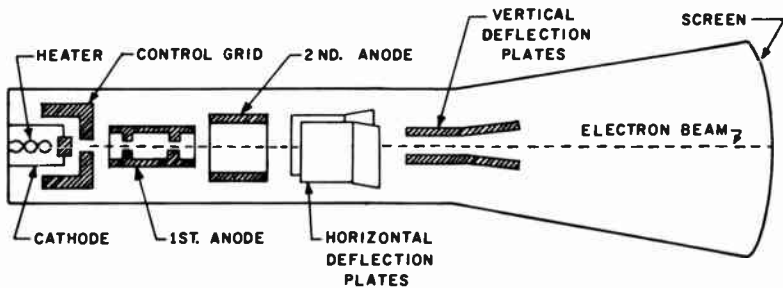

FIG. 8-16. A CATHODE RAY TUBE.
**3 THE CATHODE-RAY TUBE.** A CATHODE-RAY TUBE, abbreviated CRT, is a vacuum tube designed to give a graphical display of electrical signals. The CRT (Fig. 8-16) is the heart of the oscilloscope, radar screen and early television set.
**3 OPERATION OF A CRT.** See Fig. 8-16. Electrons are emitted by the cathode and are attracted to the positive anodes. The anodes have large positive voltages on them and cause the electrons to travel at very high velocities. The control grid, which partially surrounds the cathode, is operated at a potential more negative than the cathode, and is used to control the amount of electron flow.